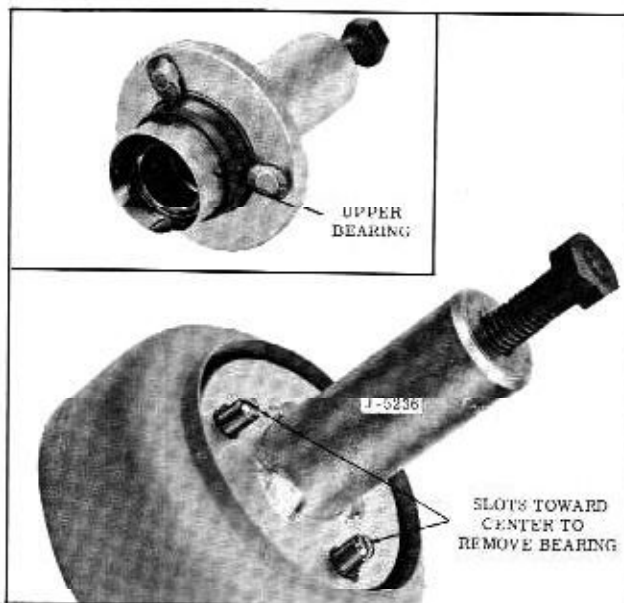

Fig. 4-75 Upper Bearing Removal
3. Remove upper bearing from retainer using Tool J-5236. (Fig. 4-75)